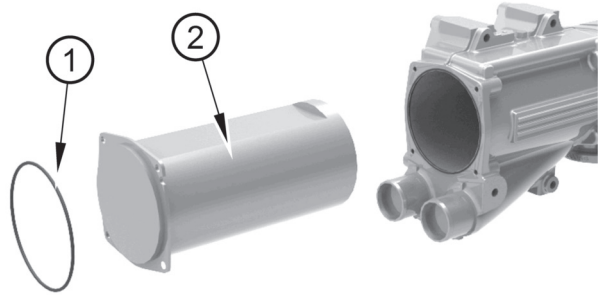

Figure 21
1. Remove O ring seal (figure 21 item 1) and tubestack (item 2).